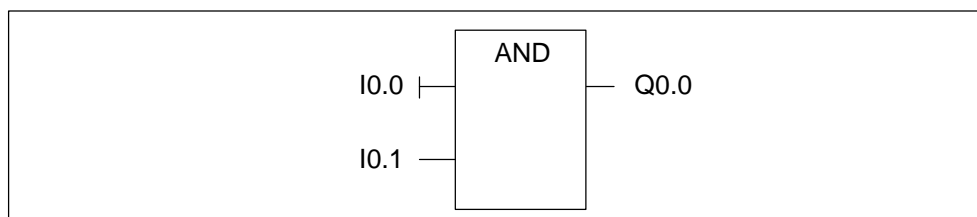

Figure 8-3 FBD Diagram of the Immediate Condition
- Immediate indicators: The immediate condition of of a Boolean operand is shown by the vertical line on the input to an FBD instruction (Figure 8-3). The immediate indicator causes an immediate read from the specified physical input. Immediate operators are only valid for physical inputs.